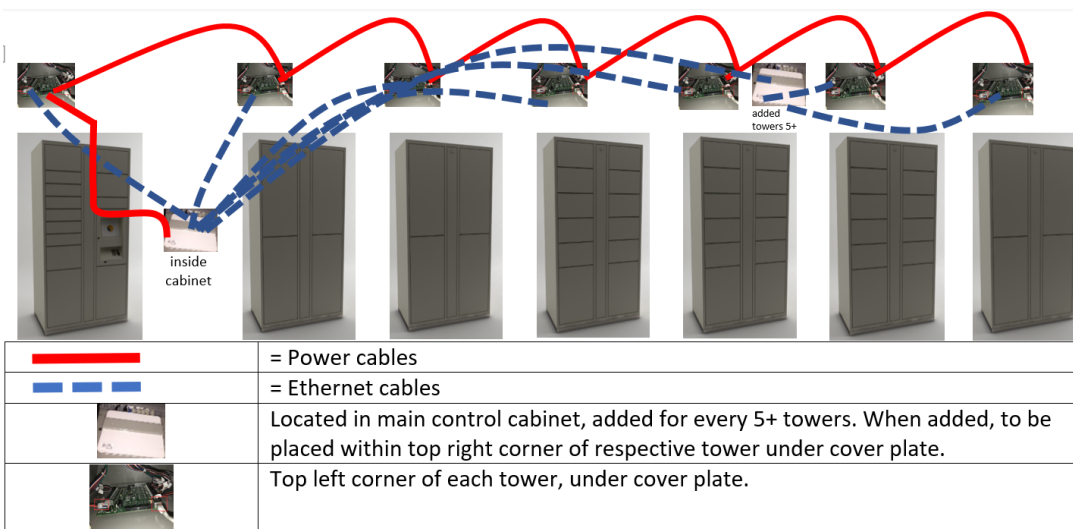

Figure 27
**NOTE:** the max number of towers is 5 before the network cables will require an additional hub (based on length of cables). For a tower setup of 1 to 5 towers, they will only require the hub contained within the main towers. Otherwise there will be a need to add a 2nd hub after connecting beyond each fifth tower (Figure 27).